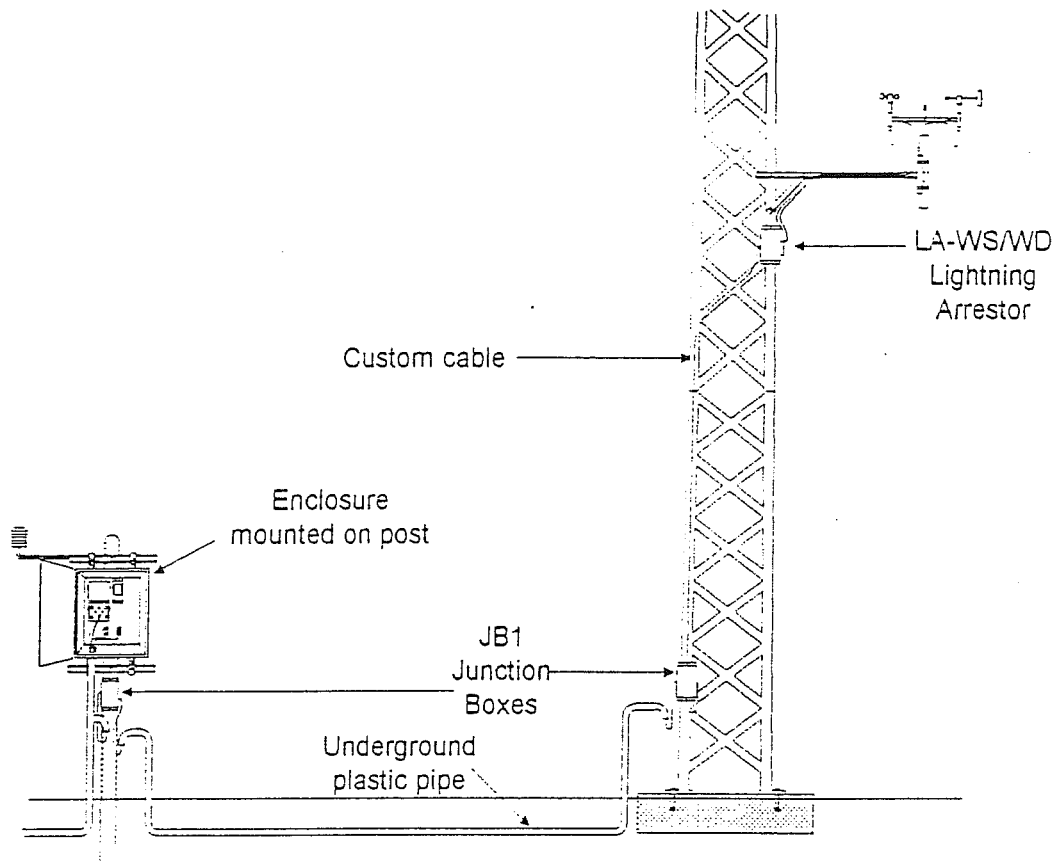

Figure 5-12
8. Figure 5-12 shows an installation using two types of junction boxes, the lightning arrestor and a standard junction box. The custom cable must be run from the lightning arrestor into a standard junction box (containing terminal strips) that may be located near the data logger, or placed so that another long run of cable is routed to the data logger through underground pipes or through building walls. There are a sufficient number of terminal strip locations in the junction boxes to accommodate several other sensors in addition to the wind sensors. This provides flexibility in sensor and data logger placement.